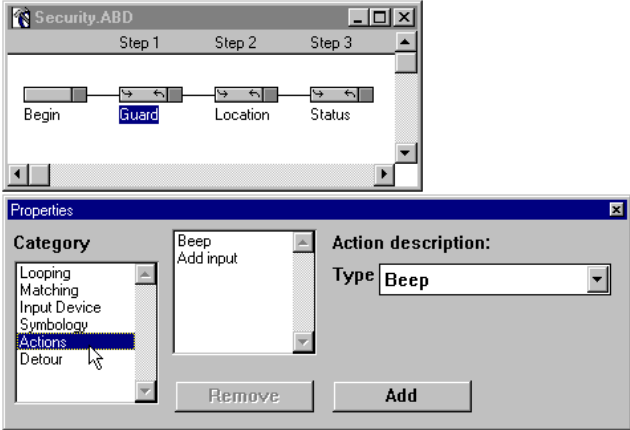

Figure 3-23 “Guard” Handler - Actions Property
- 21. Select **Actions** from the **Properties** window (Figure 3-23).